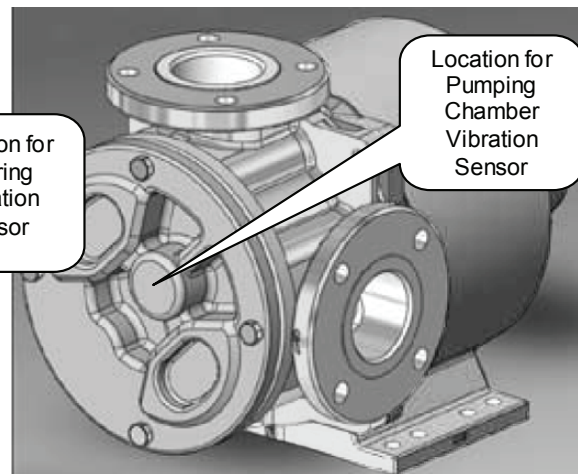

Figure 3.2 – Optional Sensor Locations
- **Pumping Chamber Vibration:** The pumping gears rotate with the casing and are supported by journal bushings. The condition of the gears and bushings can be monitored with a vibration sensor attached to the pump head. See Figure 3.2.